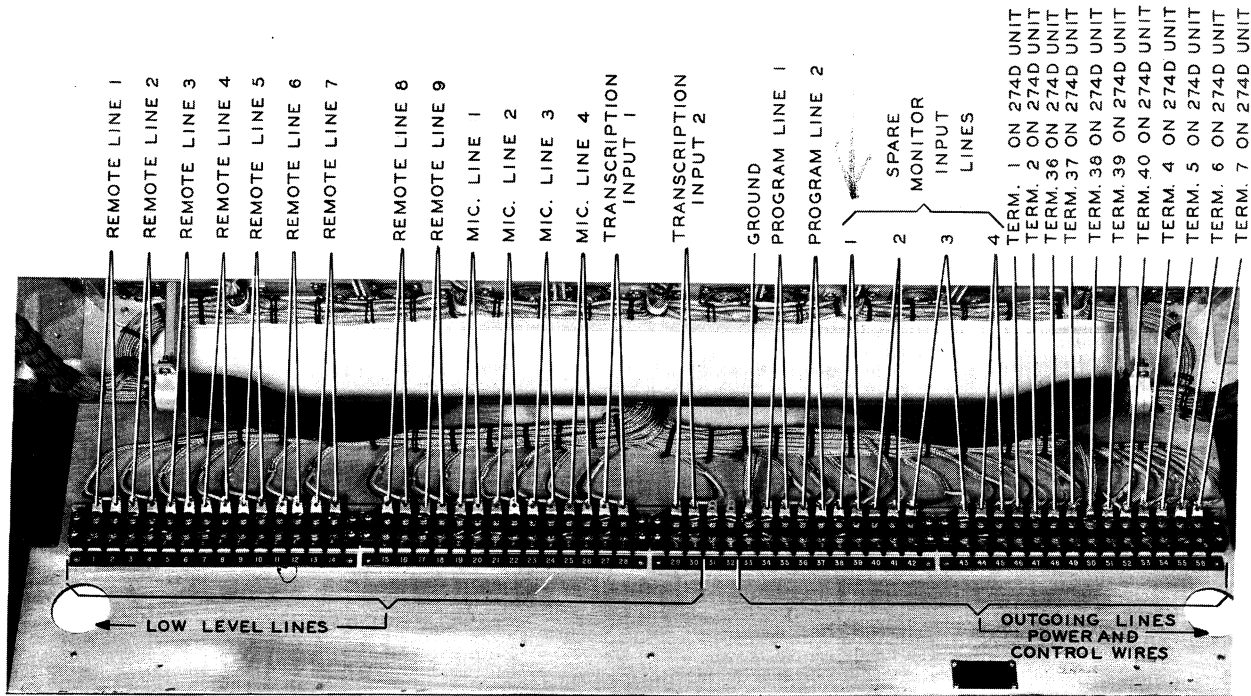

Figure 3-8 Type 212B Console Unit, External Connections
c. CONNECTIONS TO THE TYPE 212B CONSOLE. - The following connections should be made to the numbered terminal strip, E801, located on the base plate of the unit. Refer to figure 3-8.